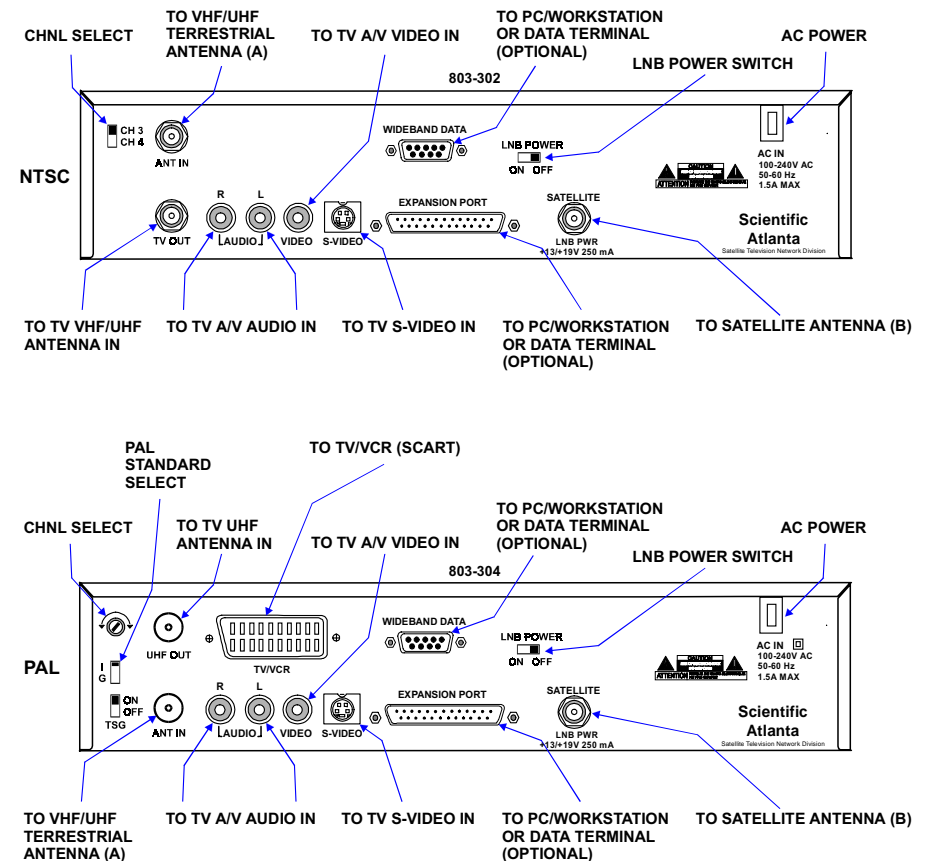

Figure 3. Rear panel connections
To maximize system performance and to take advantage of your TV monitor and A/V capabilities, use stereo A/V audio and S-Video cable connections wherever possible. S-Video connections provide significantly better quality video output in comparison with standard RCA (phono) type or RF (coaxial) type connections. If the system components you are connecting to the BSR do not include S-Video (or SCART) connectors, use A/V connections instead of RF. Note that certain connections may not be required or may be used in place of others, depending on how you intend to connect your receiver. Figure 3 shows available receiver rear panel connections for both NTSC and PAL models. For equipment interconnection details, see "TV & RF plus optional connections".
- ❑ **PAL models only** Connect a SCART cable from the receiver TV/VCR (SCART) connector (see Figure 3 on previous page) to the SCART connector on your TV or VCR